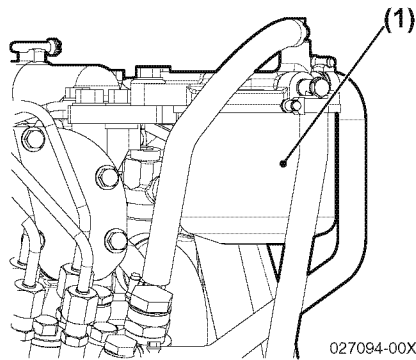

Figure 13
2. Remove the cartridge filter (Figure 13, (1)) with a filter wrench.